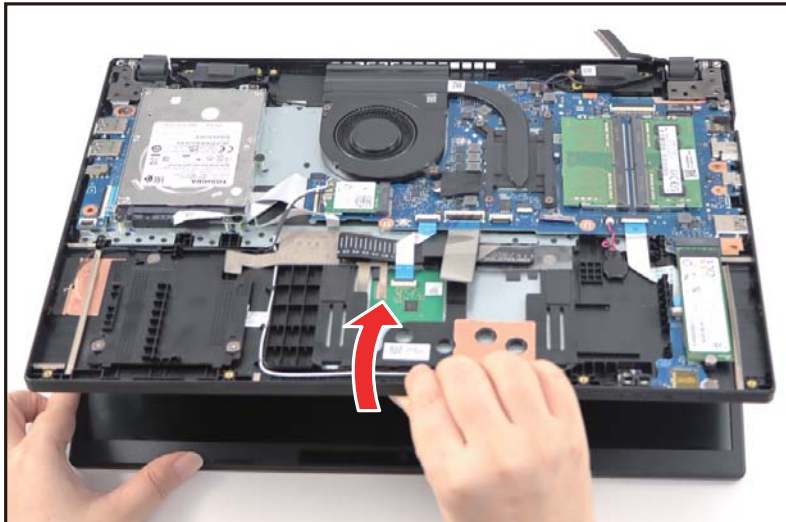

Figure 1-21. LCD Module Removal
4. Lift the top assembly until it is fully open (Figure 1-21).